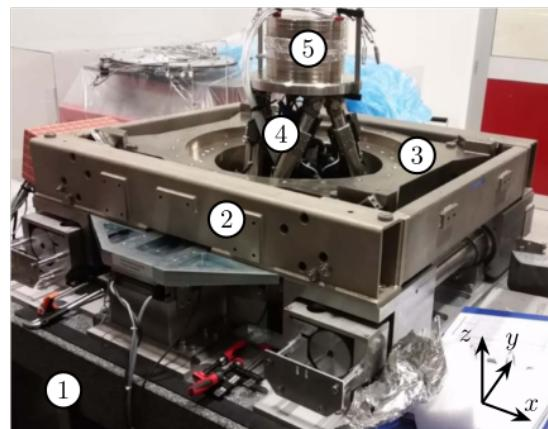

Figure 1.2.: Picture of the ID31 Micro-Station with annotations
- ID31 and Micro Station (Figure 1.2)